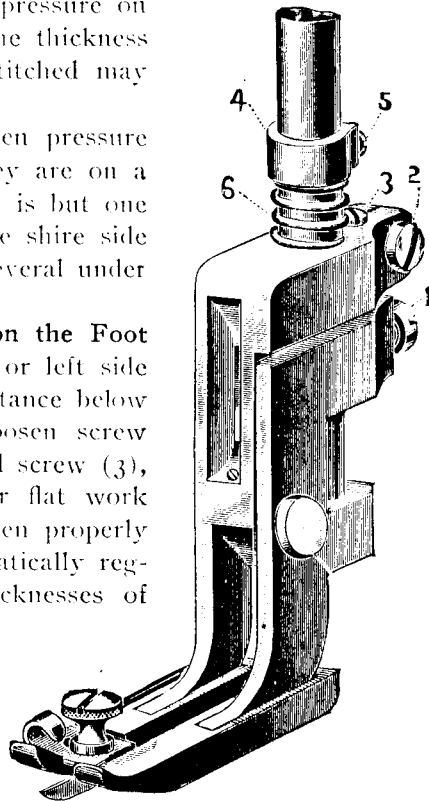

Fig. 9
To Adjust the Pressure on the Foot Plates. To lower the shire or left side foot plate to the desired distance below the hem side foot plate, loosen screw (2, see Fig. 9), turn outward screw (3), then tighten screw (2); for flat work reverse the operations. When properly adjusted the pressure automatically regulates itself to varying thicknesses of material.